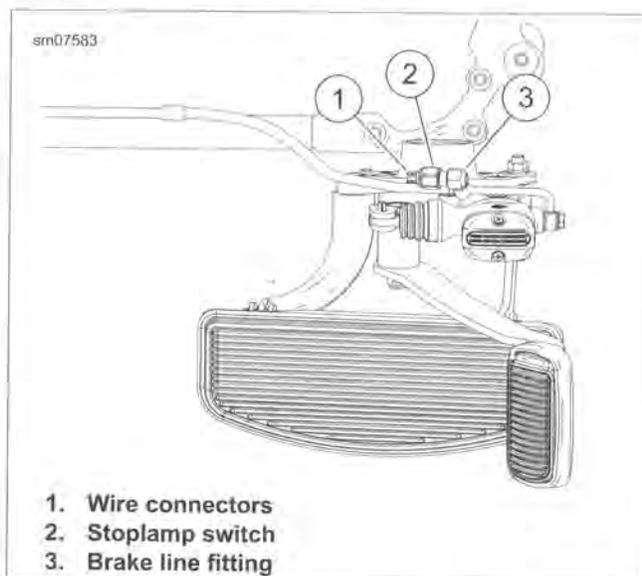

Figure 7-76. Rear Stop Lamp Switch
1. See Figure 7-76. Remove rear brake master cylinder:
2. Remove stop lamp switch connectors (1).
2. See Figure 7-76. Install rear stop lamp switch (2) into rear brake line fitting (3).